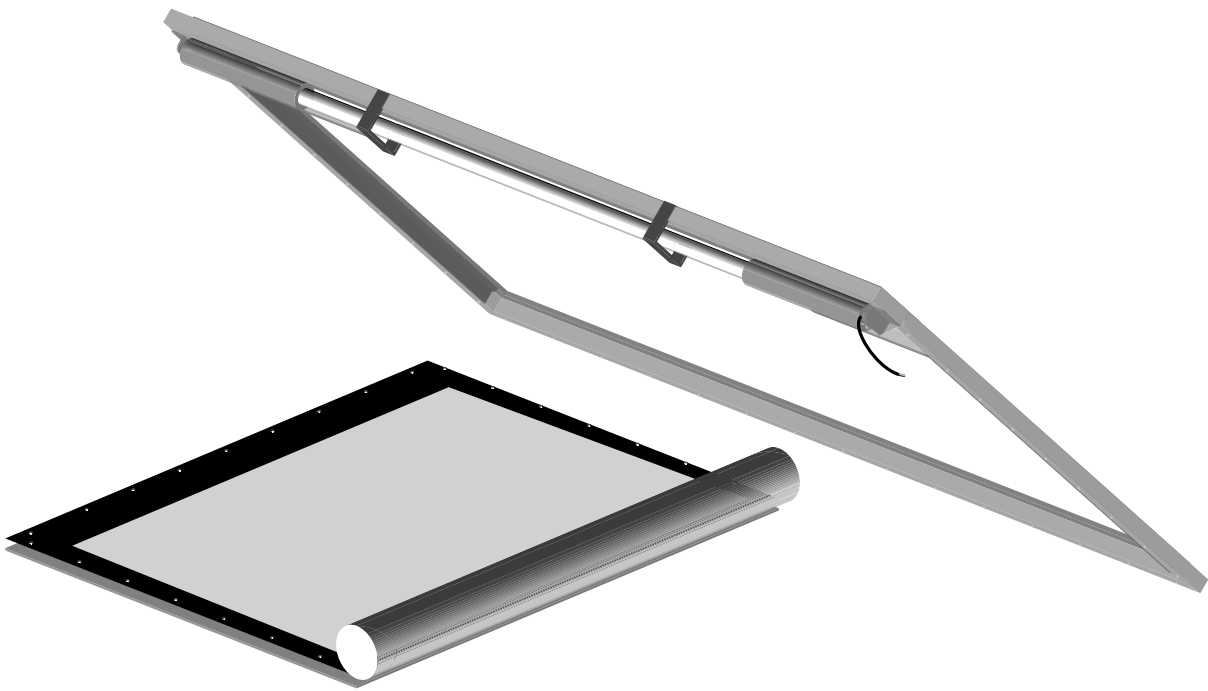

Figure 6: Unrolling the screen
3. Allow the paper to unroll between screen back and the floor. (This will keep the screen clean). See Figure 6.